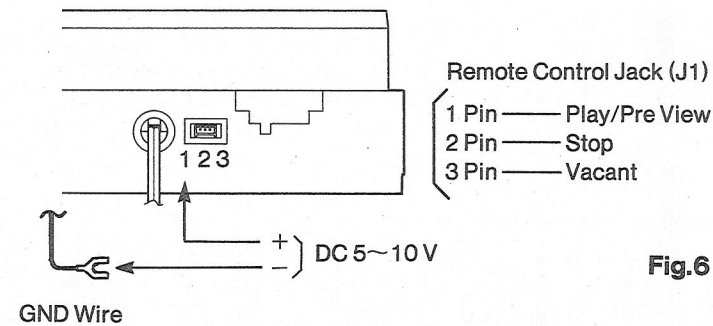

Fig.6
3. Apply a single charge of between +5~10 volts to pin 1 of the remote control jack(J1) on the back of the unit to activate lead-in by means of the remote control signal (see Fig.6).